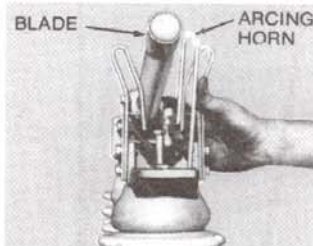

Figure 8 - Arcing horn adjustment.
4 Adjust Arcing Horns (Fig. 8)
A. Arcing horns are shipped fully assembled and adjusted on the switch, but adjustment may become necessary. The arcing horn should be turned so that the curve is against the blade as shown in Figure 8.
B. Operate switch. Blade should make a light to firm sliding contact from the top of the curved horn to the fully closed position when the blade is rotated into the jaw contacts. Readjust the position of the arcing horn by bending as shown in Figure 8, until action is correct as described.